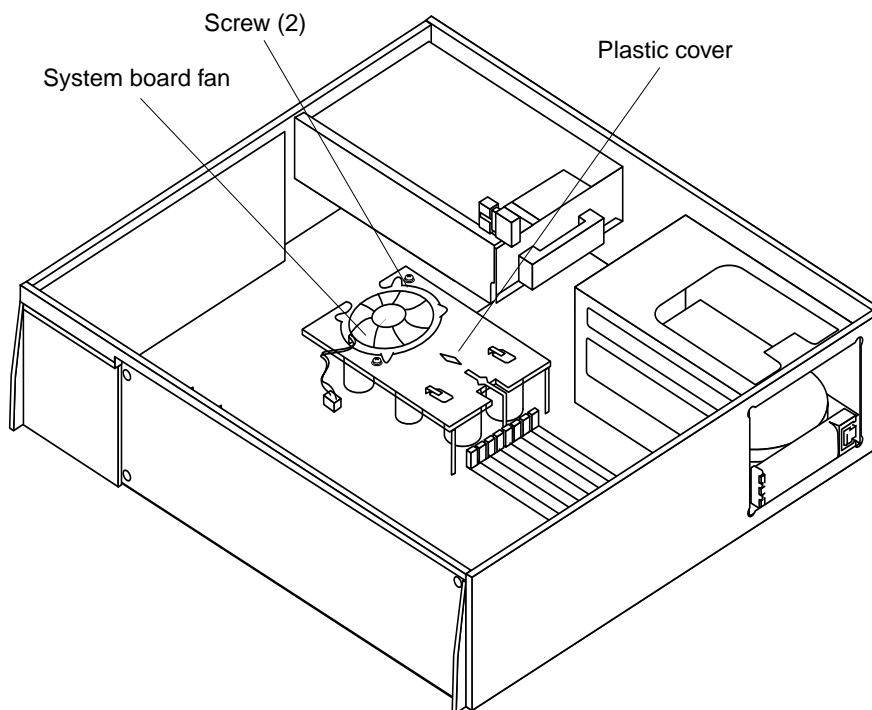

FIGURE 10-24 System Board Fan Plastic Cover
4. Remove the two screws securing the system board fan and heatsink cover to the system board (FIGURE 10-24).
4. Replace the two screws securing the plastic cover and system board fan to the system board (FIGURE 10-24)